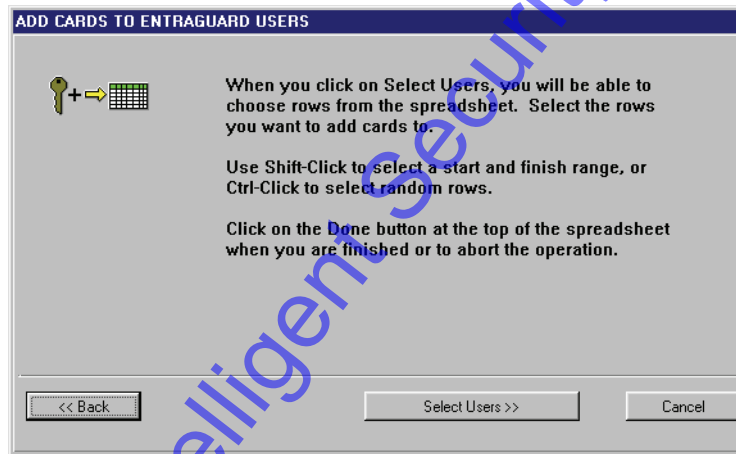

Figure 10-47: Add Cards To EntraGuard Users Window
- Once you have made your enrollment selections and clicked on the  button, the Add Cards To EntraGuard Users window will appear (see Figure 10-47).